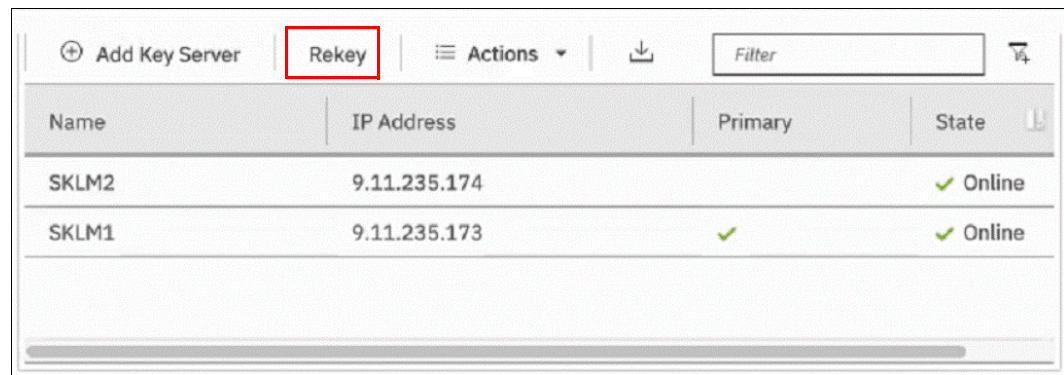

Figure 12-72 Start rekey on SGKLM key server
2. Click **Rekey**, as shown in Figure 12-72.